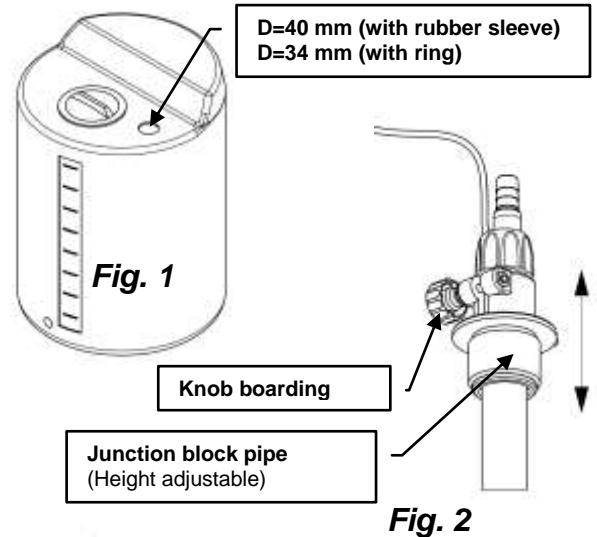

Fig. 3
- In fitting with the sleeve, after entering the lance in the hole, make downward pressure until the lance reaches the bottom of the tank (Fig. 3).